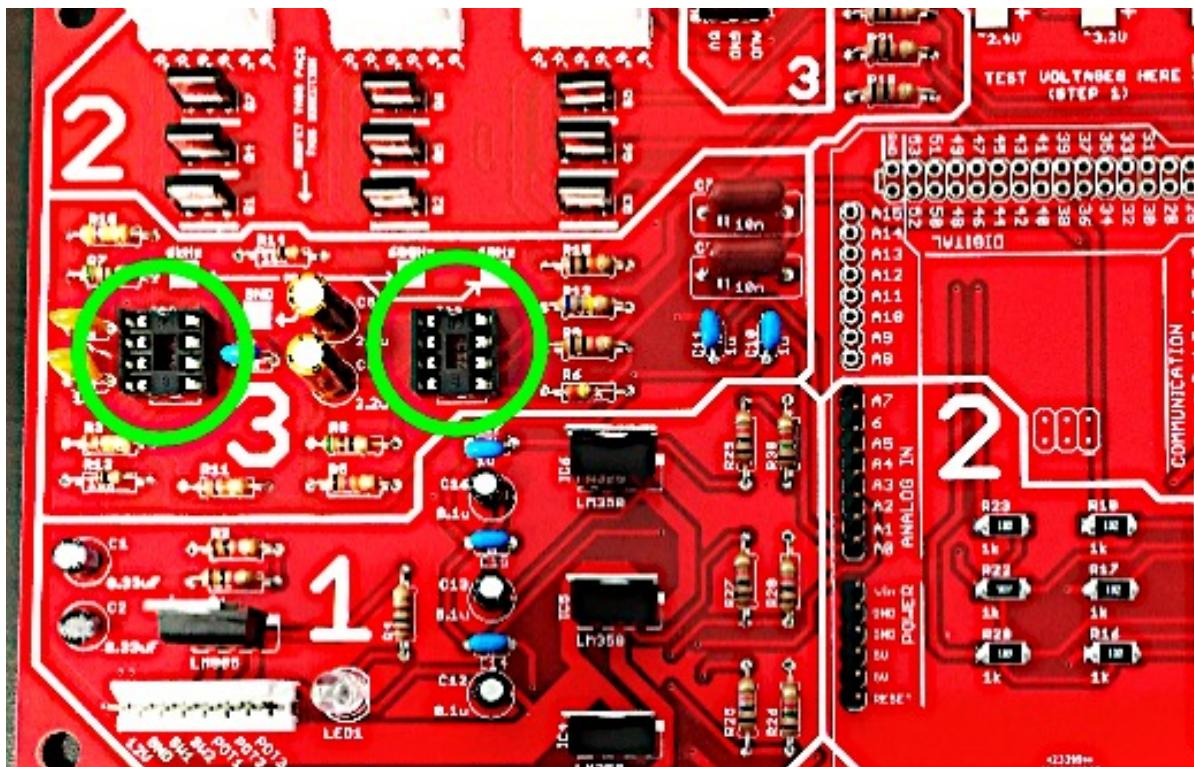

Figure 15: Nearly fully assembled PWB. Green circles show 8-pin DIP sockets mounted to the PWB in Region 3.
STEP 3A. Unplug all crimped header connectors and solder the rest of the components to the PWB (Region 3 components). **DO NOT DIRECTLY SOLDER AUDIO OPAMPS TO THE PWB.** Instead, solder the 8-pin DIP sockets to the PWB. (See Figures 15 and 16).